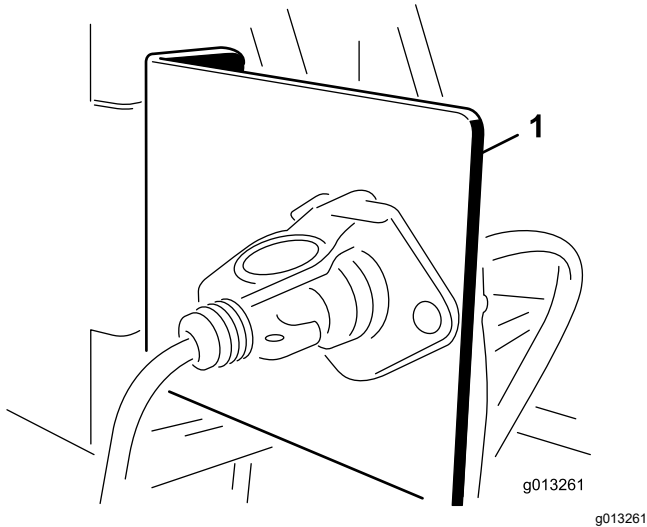

Figure 10
1. Mount the socket bracket to a fixed point at the rear of the tow vehicle using 1 of the mounting brackets provided (Figure 10).